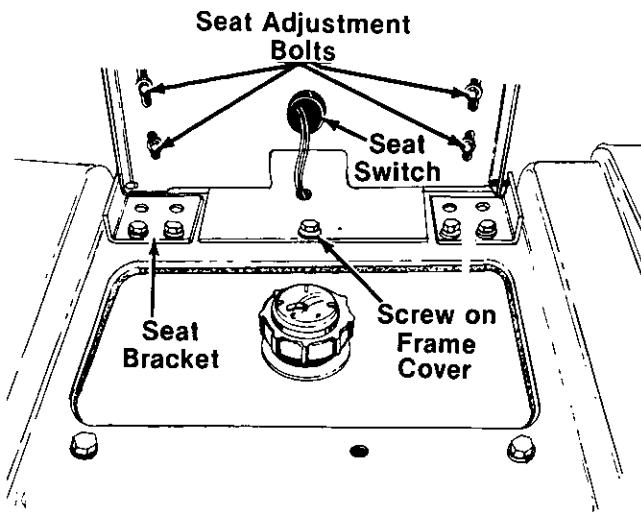

FIGURE 12.
Before starting the tractor, adjust the seat to the most comfortable driving position. Tilt the seat forward over the steering wheel, loosen the four bolts in the seat support, and slide the seat assembly forward or rearward to the position which is most comfortable for the operator. See figure 12.
2. Remove screw and flat washer from frame cover as shown in figure 12.